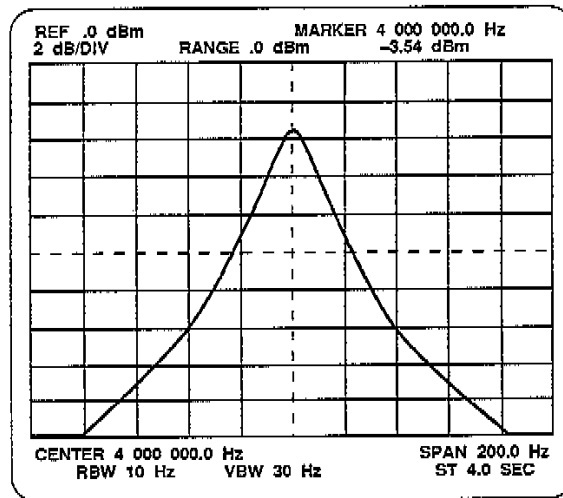

Figure 3-15. XTAL Centering properly adjusted.
2. For the XTAL Centering adjustment steps 10 through 15, perform the adjustments indicated in the instructions area of the screen. See Figure 3-15.